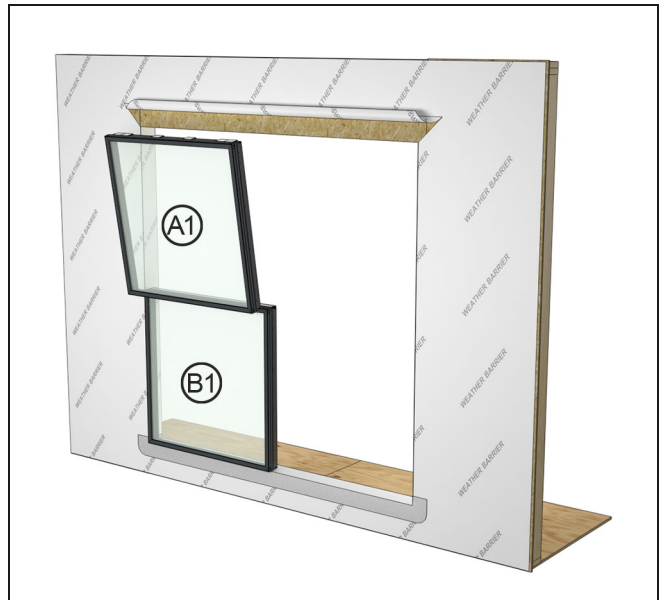

Figure 114
7. Mull the second unit (A1) to the first (B1). For standard tight mulls, follow procedures found in the mull instructions. For structural or flat steel mulls, refer to the appropriate procedures within this instruction. See Figure 114